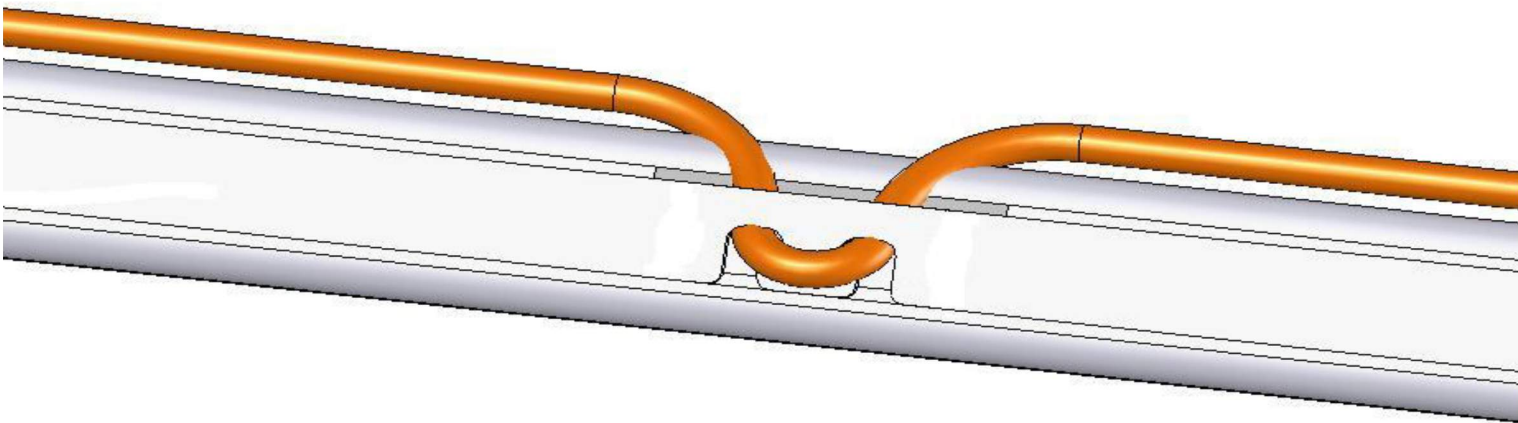

Figure 10
8. With the goal frame now fully assembled, attach the net to the goal. The top corner of the soccer goal is where the Crossbar meets the Upright. On either side, begin by attaching the net to the clips along the goal. The net is attached by first pushing the outer binding through the clip, then securing in the groove (Fig. 10). Move along the Crossbar attaching the net to every clip. Next, work down both uprights and the back around the Ground Bar.